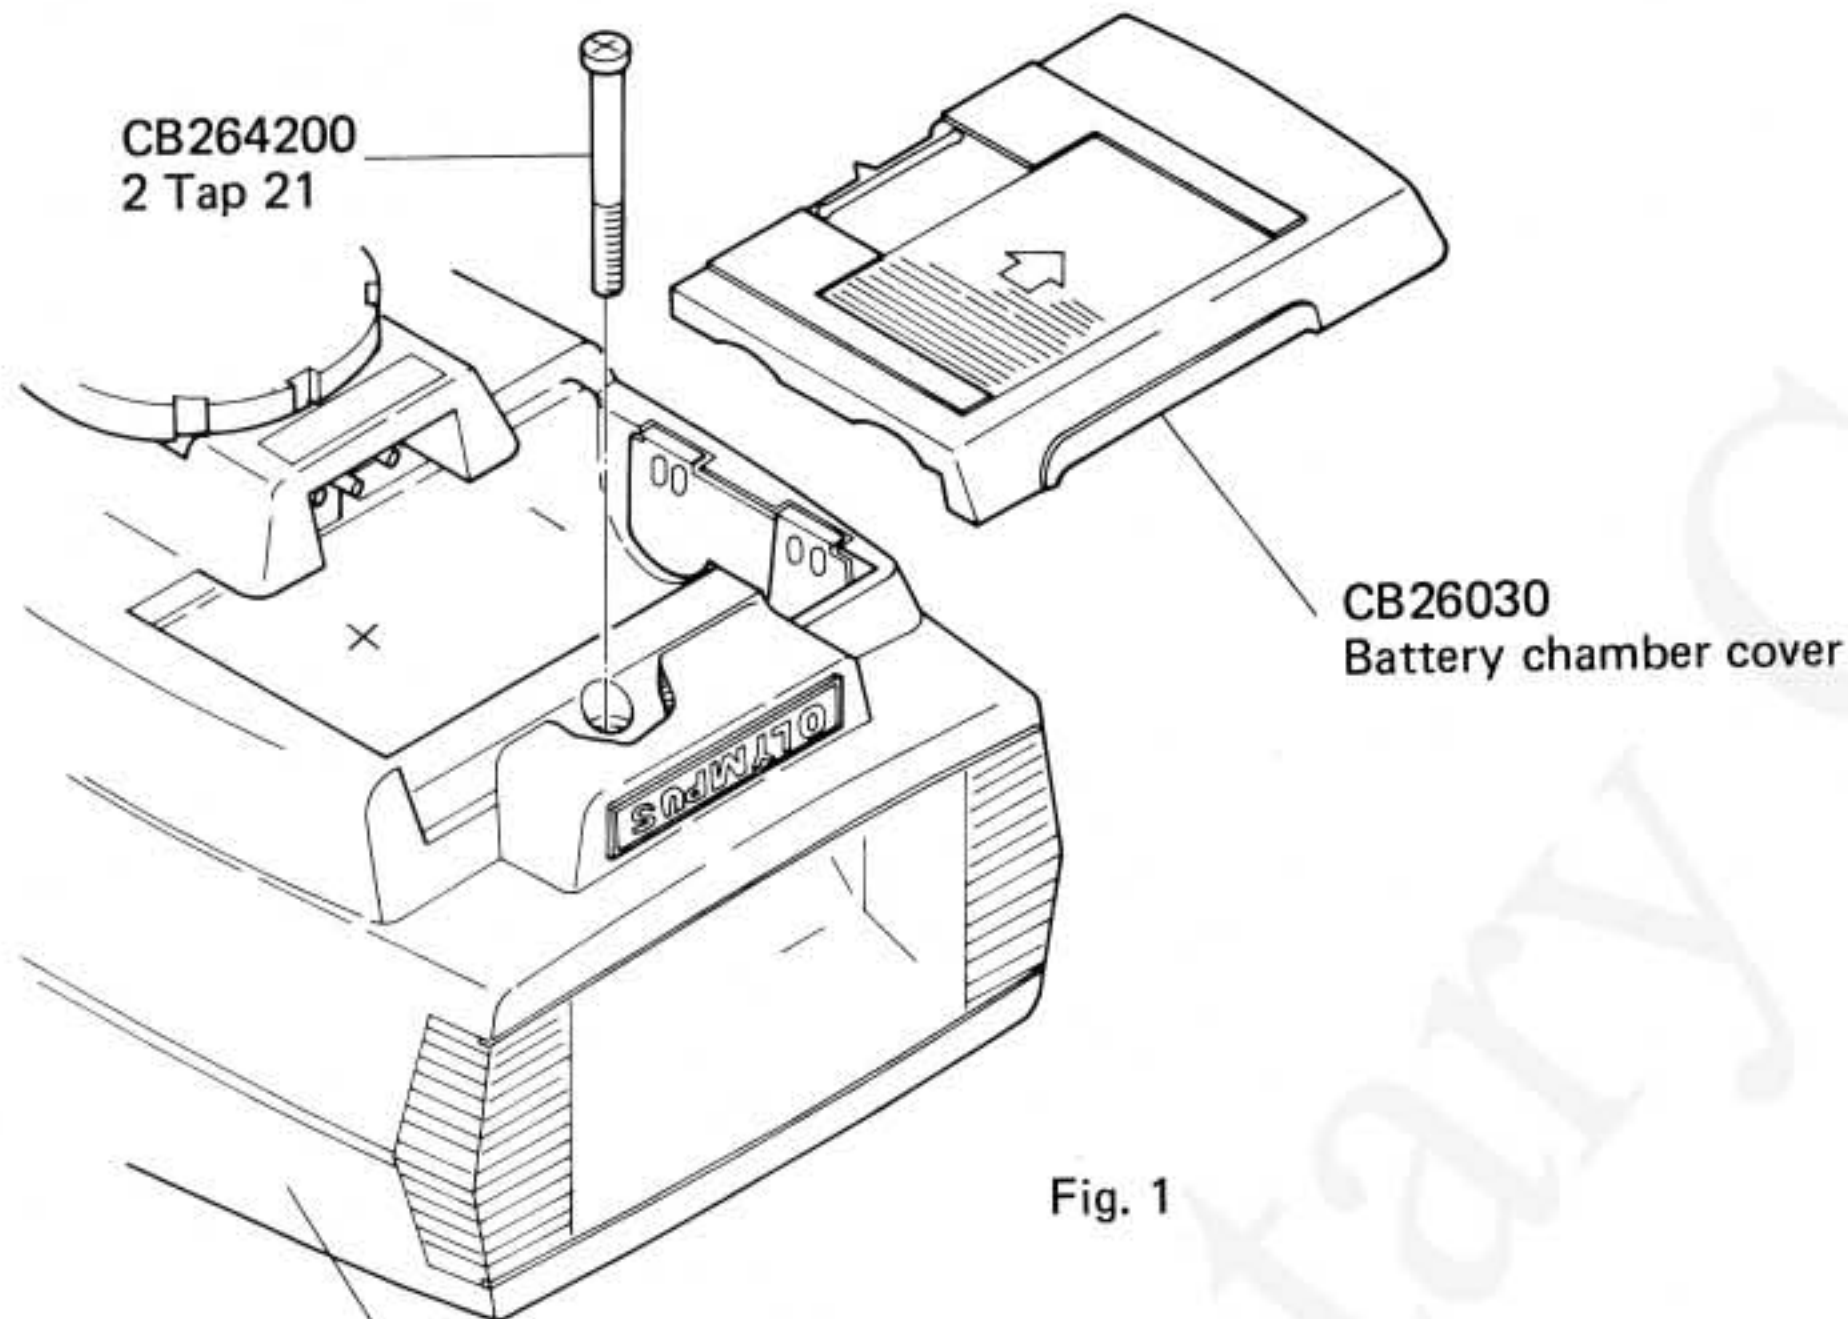

Fig. 1
- 1) Remove the battery chamber cover (CB260300). Fig. 1
- 2) Remove 2 tap 21 (CB264200). Fig. 1